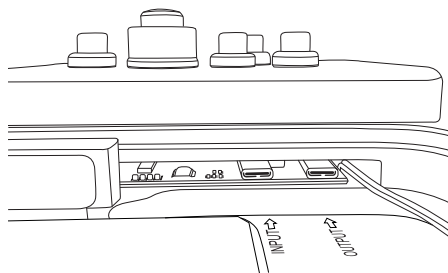

Figure 8
- Insert the USB-C plug into the INPUT port; (Fig. 8)
- Insert the USB-C plug into the OUTPUT port; (Fig. 8)
- Turn the knob until it locks and engage the safety by pressing lightly towards the housing; (fig. 8)